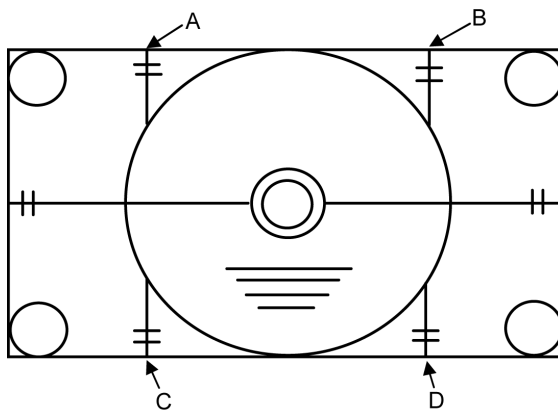

Fig. 3
- C, D (Fig. 3) is 2.0 ± 0.1
- A, B (Fig. 3) is 2.0 ± 0.1